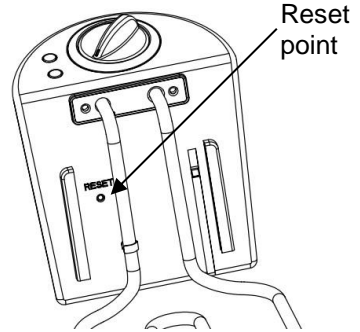

Fig. 10
11. When frying is complete, lift the frying basket and hook onto the end of the oil tank to permit the oil to drain back into the oil tank for a short while (fig. 10).